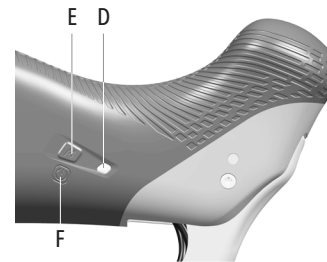

Fig.8
- D - Communication LEDs (Fig.8)
- E - Ergopower MODE button (Fig.8)
- F - Power button (Fig.8)